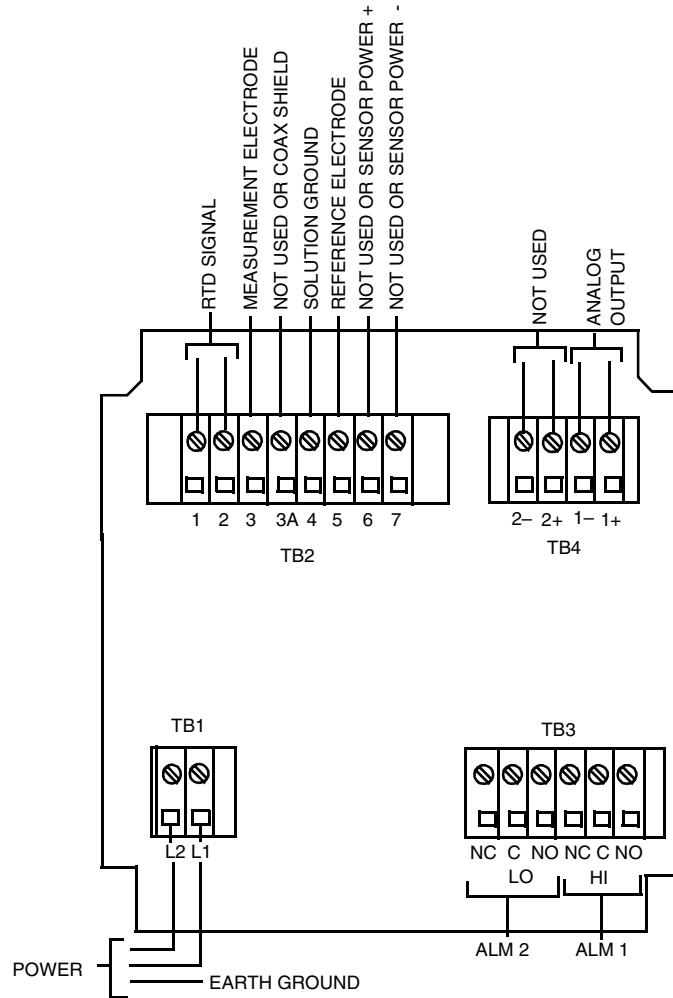

Figure 2. Metal Enclosure Rear Panel Wiring for Power, Output, and Alarms
2. Connect ALM 1 and ALM 2 Alarm wires to TB3 as shown in Figure 2. Failsafe operation requires connections to be made between contacts NC and C. For details see “Wiring of Alarms” on page 22.
4. Connect sensor wires to analyzer terminal block TB2 as shown in Figure 2.
5. Connect power wires to terminal block TB1, as shown in Figure 2. The earth (ground) connection from the power cord should be connected to the ground stud located in the bottom of the case. This connection is mandatory for safe operation.